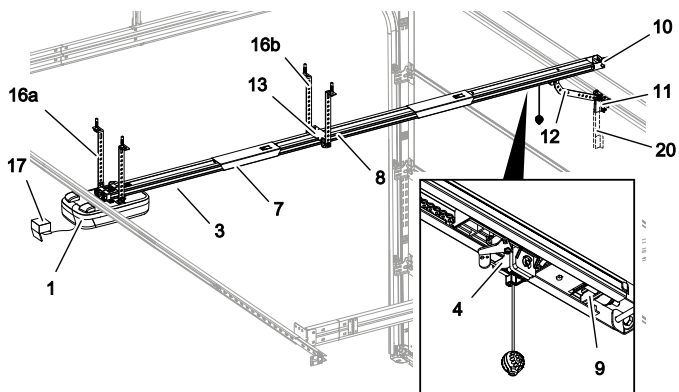

Fig. 1: Product overview – assembled
Fold out the rail (3 and 8) to its full length. Slide the track connector (7) centrally over the joints. Re-tension the chain or the toothed belt if necessary (fig. 1).